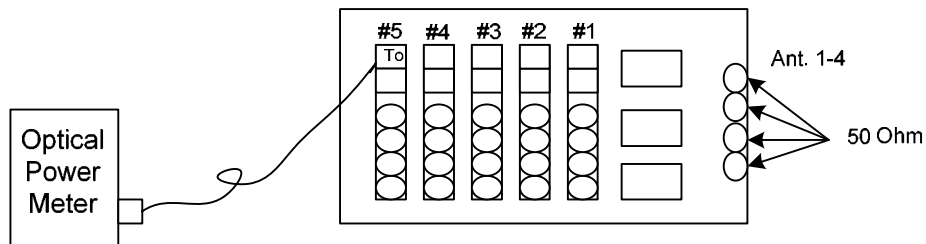

Figure 3.1 Optical Power Setup
- 3.4. Connect Optical Power testing setup according to Figure 3.1.